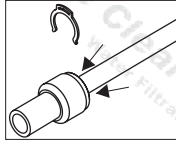

Fig. 2
- 2) Press on the flange of quick connector (Fig. 2).